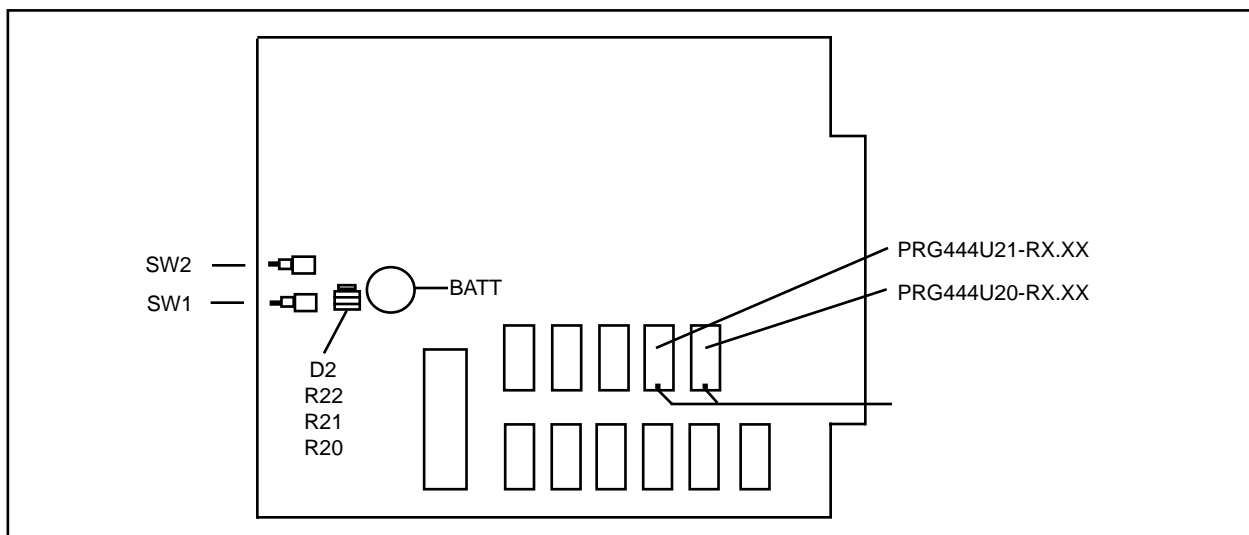

Figure 1. EPROM and Resistor Installation
3. Refer to Figure 1 and remove the old EPROMs. Use the tip of a screwdriver to pry up the ends of the EPROMs and remove them from their sockets.
4. Install the new EPROMs. Do not touch the EPROM pins. Make sure the notch on the EPROM lines up with the notch on the socket (refer to Figure 1). Place the EPROM pins the socket and push down on the EPROM. Make sure the pins go into the socket and do not bend under the EPROM.
5. Find resistor R21 (refer to Figure 1). If the value of the resistor is 100K ohm (brown, black, yellow stripes), replace it with the 3.3M ohm resistor (orange, orange, green stripes) included in the kit. If R21 is already a 3.3M ohm resistor, no modification is required.